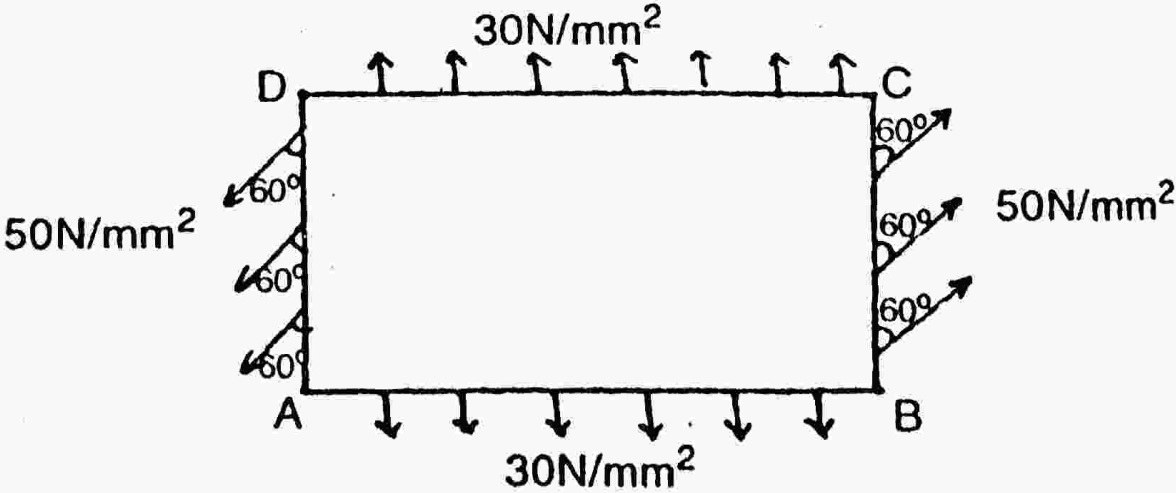

Fig. 7
12. A point in a strained material is subjected to the stresses as shown in Fig. 7. (13)